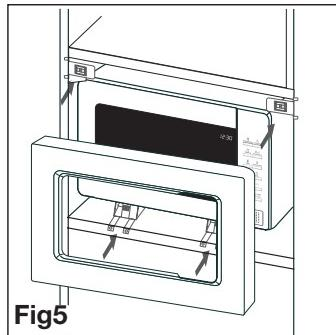

Fig5
5. Attach the surround. (Fig5)